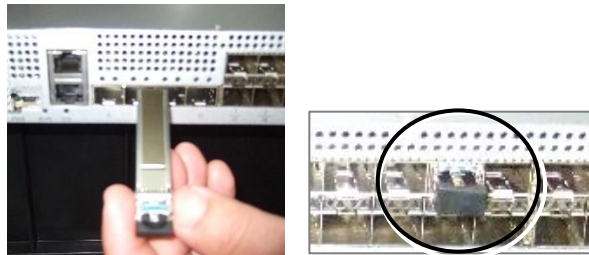

Figure 2 Remove rubber stopper from port and from SFP+ Pluggable Transceiver
2. Remove the rubber stopper from the source port (Figure 2).
2. Remove the rubber stopper from the DRU-to Remote port (Figure 2).